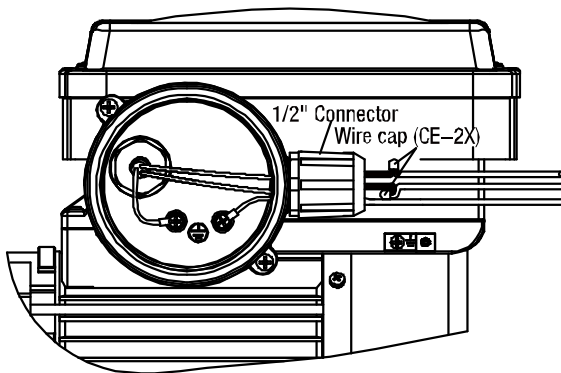

FIG. 3
- Install 1/2" connector to terminal box. Install ground wire to ground rod using multifunction crimping pliers to connect two wires with two wire caps. (FIG.3)